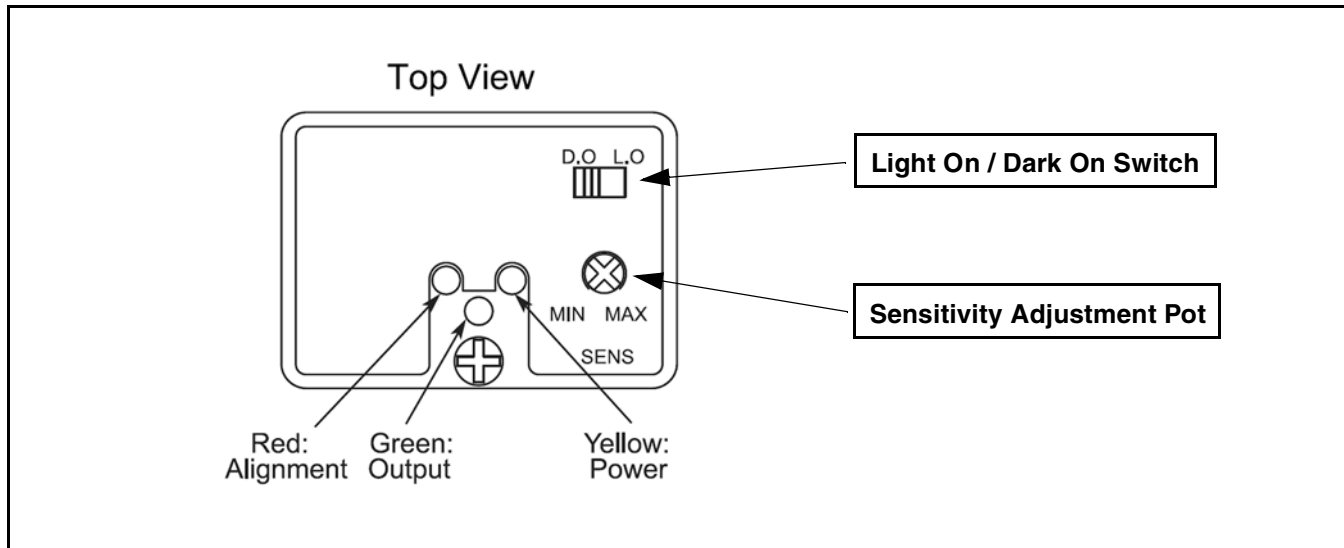

Figure 28
5. Photo eye comes preset to Light-On operation which causes the conveyor to run when the sensed zone is clear and stop when the sensed zone is blocked. For Dark-On operation move selector to D.O. position (**Figure 28**).